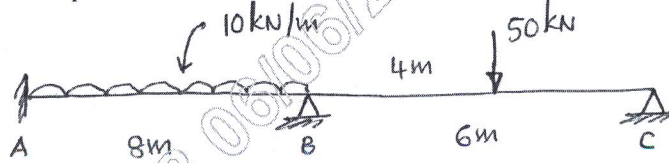

Fig. Q5
- 5 Analyse the continuous beam loaded shown in Fig. Q5 by stiffness matrix method. Draw BMD and SFD. Use displacement transformation matrix method. (20 Marks)